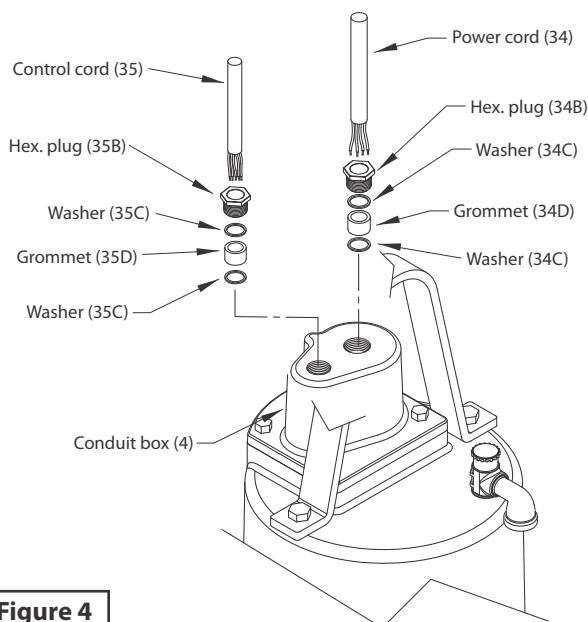

Figure 4
Conduit Box Assembly - Check power (34) and control cables (35) for cracks or damage and replace complete conduit box (4) if required. (See Figure 4) Bring motor wires through opening in top of motor housing (3), check sleeving and replace if damaged. Position square ring (5) in conduit box (4) and reconnect leads using connectors and insulators. See Figure 5 for wiring schematics.
Remove gland nuts (34B) and (35B), washers (34C) and (35C), and grommets (34D) and (35D) from conduit box (4), inspect and replace if damaged (See Figure 4). Reassemble by inserting one washer, grommet, one more washer and gland nut into conduit box. Torque gland nuts to 15 ft/lbs to prevent leakage.